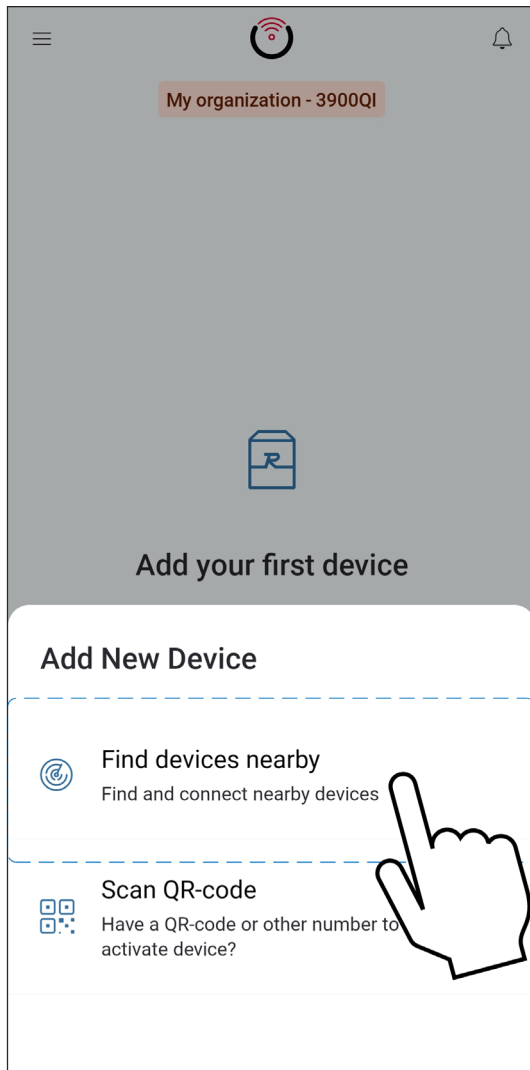

Figure 49. Add New Device
2. "Add New Device" screen will appear. Ensure to have Heat Pump Pool Heater powered and Wi-Fi signal available in the area, then press "Find devices nearby" button. See **Figure 49**.